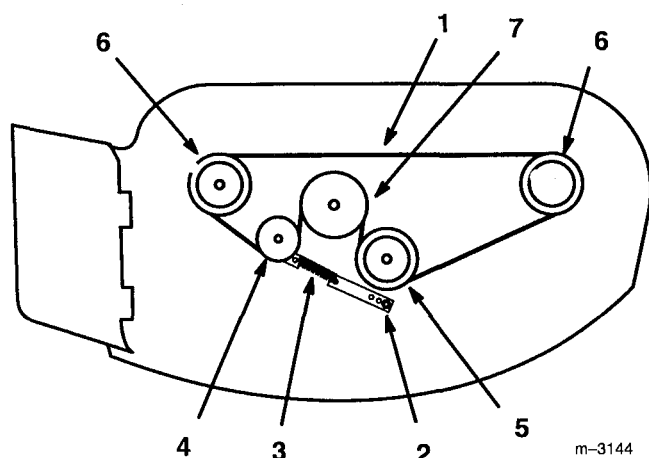

Figure 20
4. Disconnect the Tension bracket and spring to relieve tension on the idler arm and idler pulley, then remove the worn deck belt (Fig. 20).
5. Install the new deck belt around the two outboard spindle pulleys, the fixed idler pulley, and center spindle pulley (Fig. 20).
6. Reconnect the idler arm spring and tension bracket and secure with lock nut (Fig. 20).